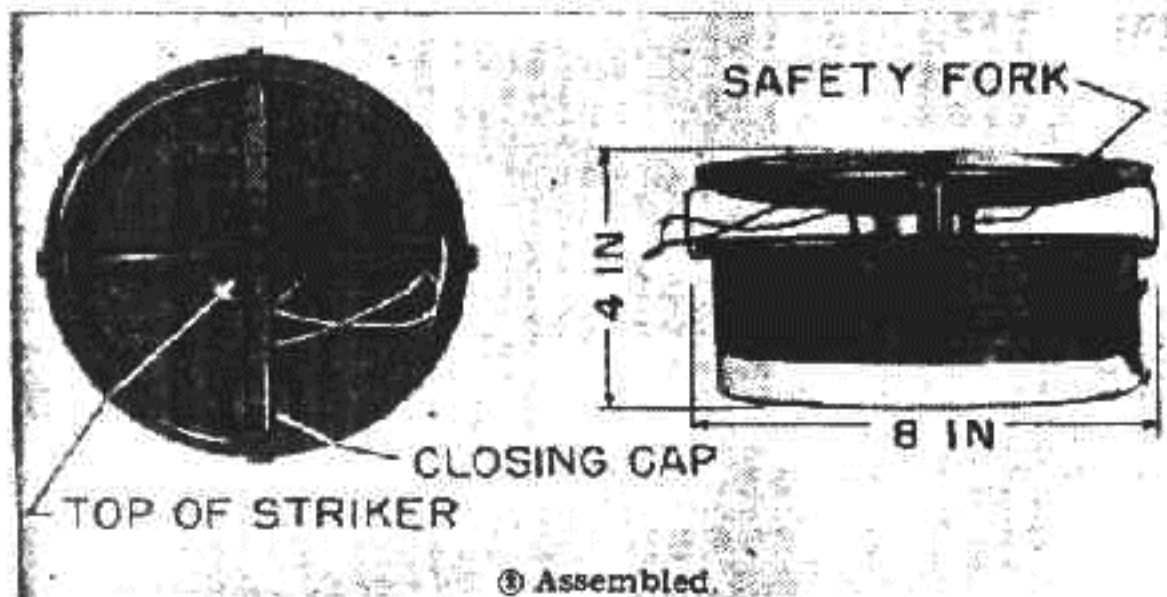

FIGURE 107.—Antitank mine.
e. **Mines** (fig. 107).—Antitank mines stop a tank and allow antitank fire to be brought upon it.